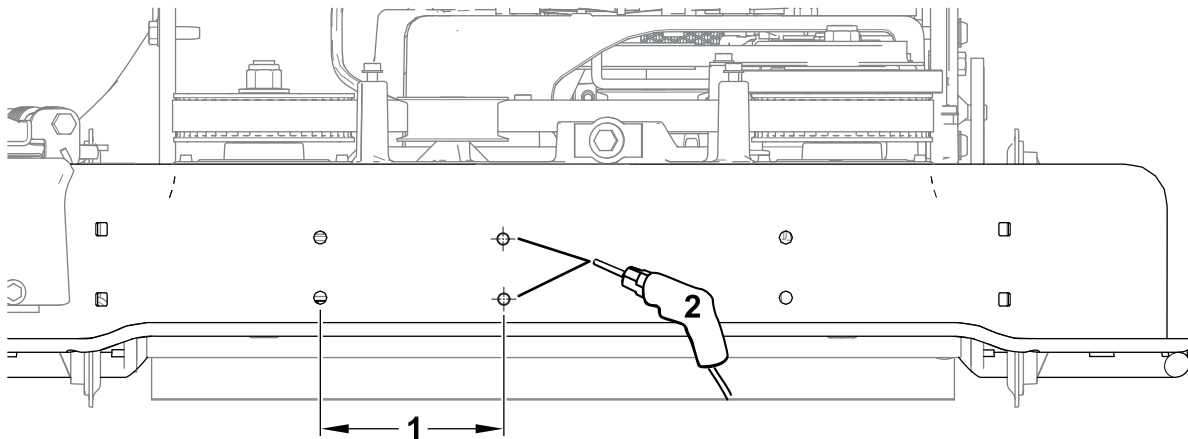

Figure 10
1. Drill 2 holes (8 mm or 5/16 inch) into the front of the deck as shown in Figure 10.